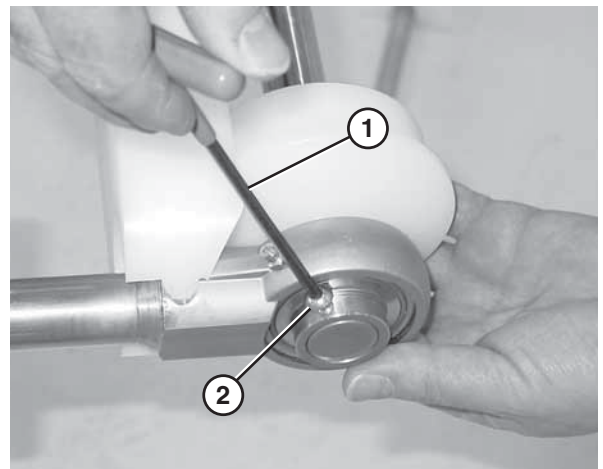

Figure 81
5. Use a hex wrench (**Figure 81, item 1**) to tighten the bearing shaft fasteners (**Figure 81, item 2**).